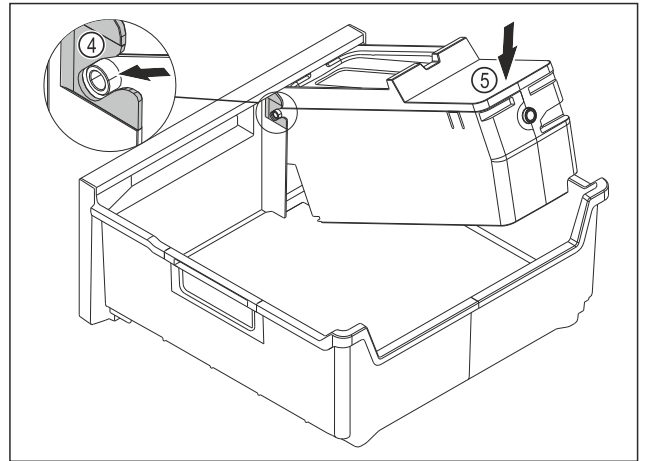

Fig. 135
- ▶ Installing the EasyTwist-Ice body: Push the axes for the EasyTwist-Ice body into the guides Fig. 135 (4).
- ▶ Press the EasyTwist-Ice body Fig. 135 (5) down at the back.